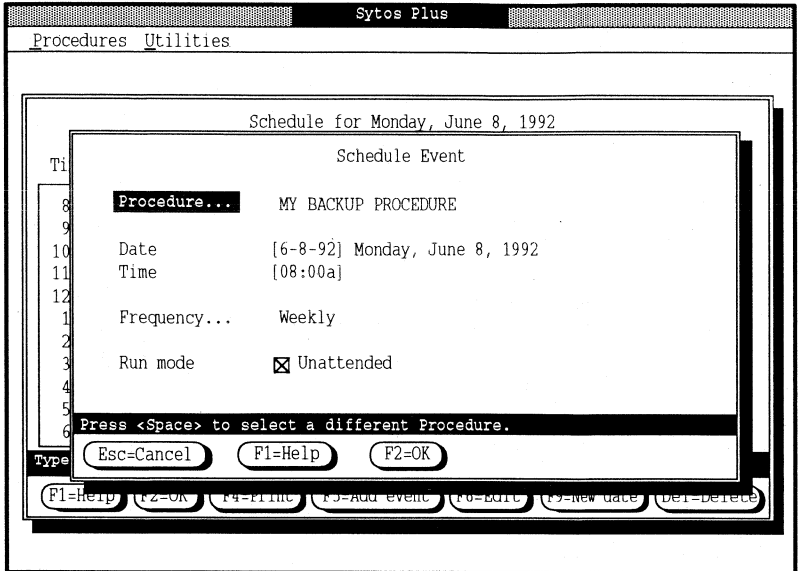

Figure 15-26 A scheduled event
**Add event** allows you to add an event to the day that the schedule is run. Figure 15-26 shows an example of the Schedule Event window.